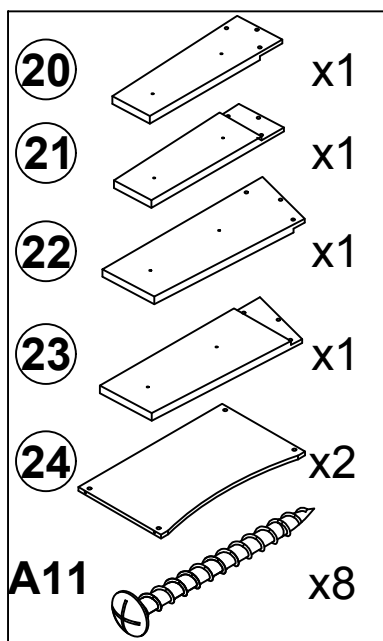

Fig 14A
23. Attach the Leg Panel(#24) to the Leg-A(#20 & #21) using four Screws(A11) per Leg Panel (#24) .See FIG.14A.